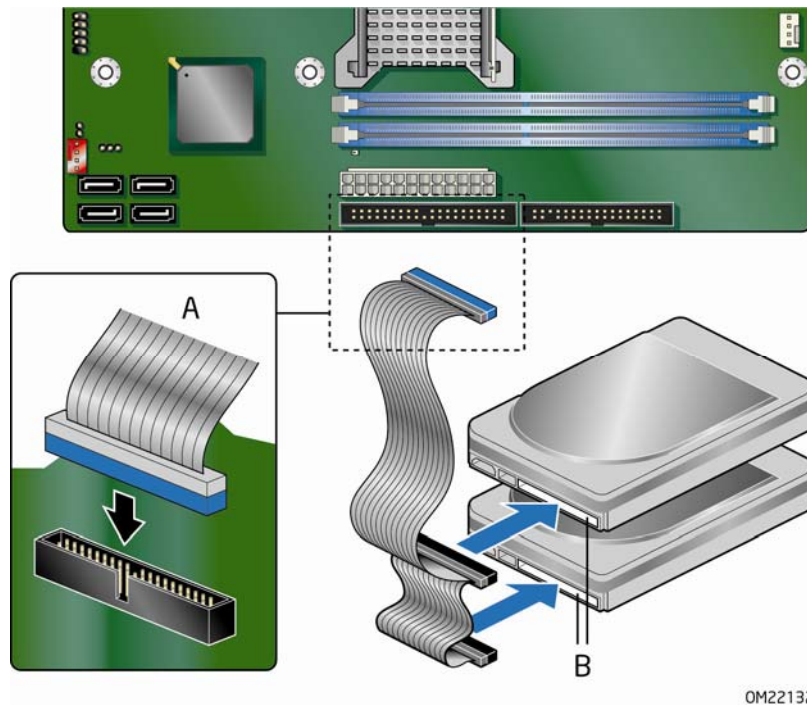

Figure 18. Connecting the IDE Cable
An IDE cable can be used to connect two IDE drives to the Desktop Board. The cable supports the ATA-66/100 transfer protocol. Figure 18 shows the correct installation of the cable.
2. Attach the cable end with the single connector (blue) to the Intel Desktop Board (Figure 18, A).
3. Attach the cable end with the two closely spaced connectors (gray and black) to the drives (Figure 18, B).